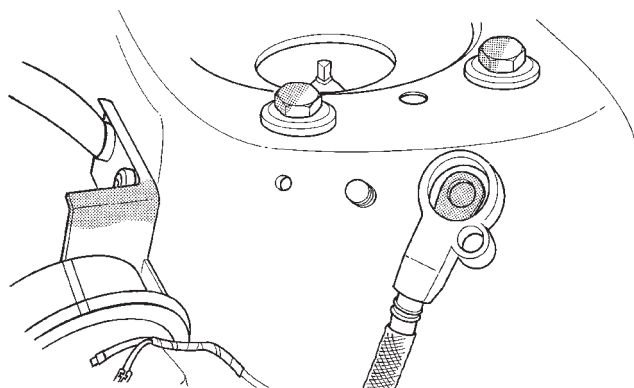

Fig. 62 Remote Battery Cable Negative
- (1) Disconnect battery negative remote cable (Fig. 62).